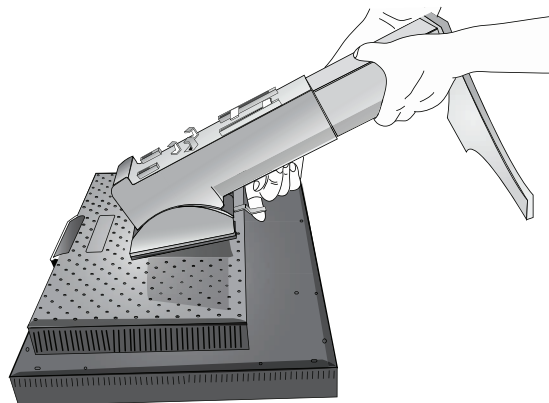

Figure S.3
5. Lift up the bottom of the stand to unhook it from the monitor (**Figure S.3**). The monitor can now be mounted using and alternate method. Reverse process to reattach stand.